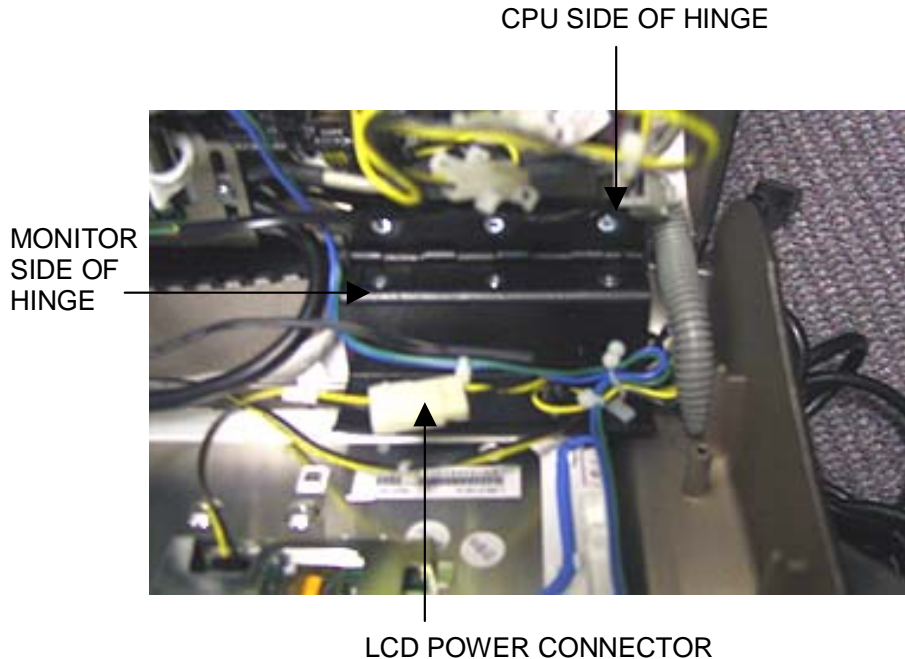

FIGURE 2 - CLOSE-UP OF MONITOR HINGE
7. Disconnect the LCD power connector (black and yellow wires). See Figure 2.
10. Loosen the 3 screws on the monitor side of the hinges in order to raise the hinges and allow room to remove the monitor. See Figure 2.